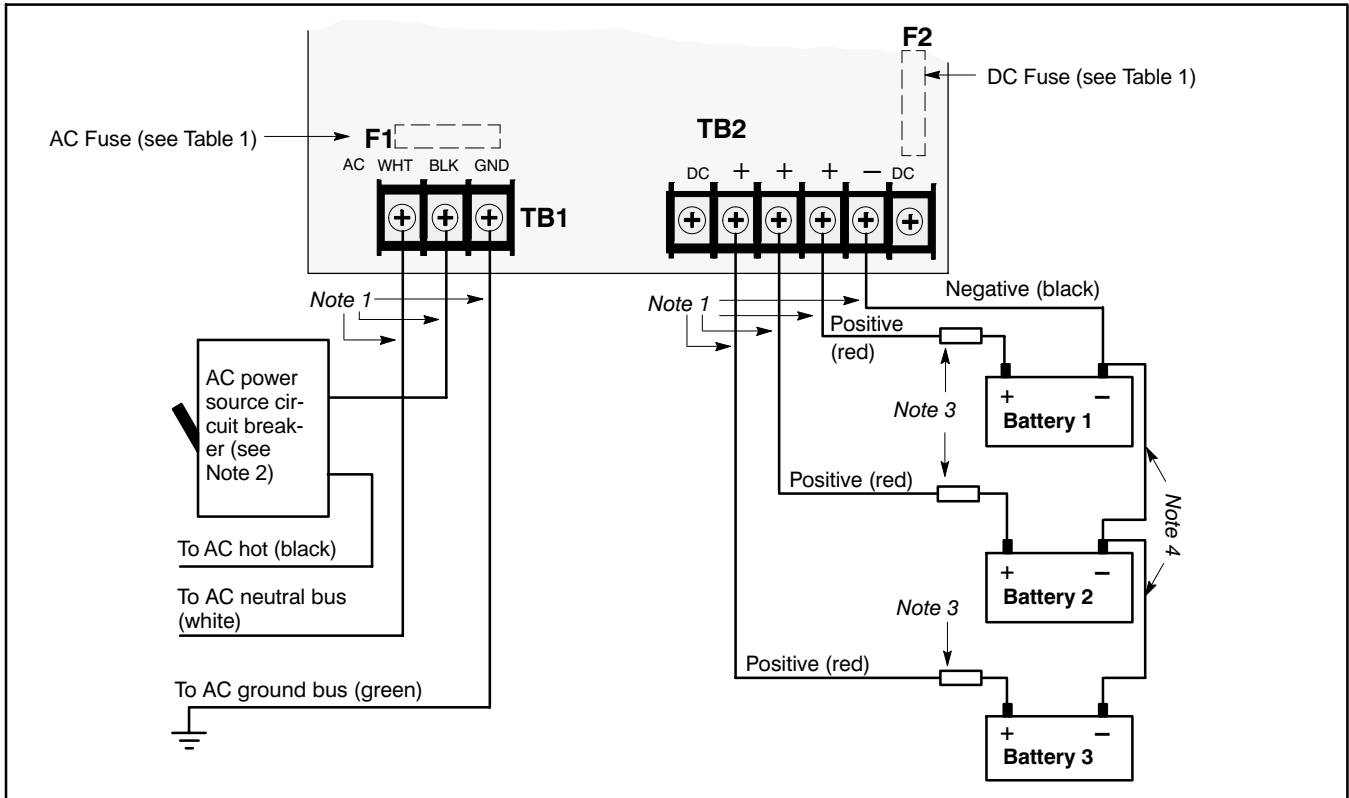

Figure 1. Wiring Diagram (Reference Table 1 for Applicable SP Series C-Charger Model)
2.	The AC fuse (F1) is located just above the AC terminal block (TB1) and the DC fuse (F2) is located to the right of the DC terminal block (TB2) (see Figures 1 or 2). When replacing fuses, use only fuses of the exact type and rating (see Table 1).